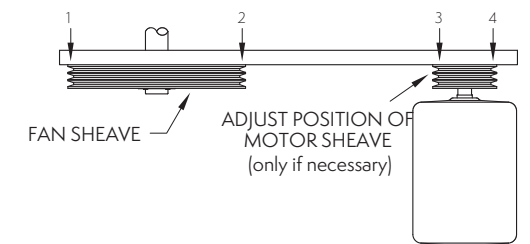

Figure 33 – Sheave Alignment Check
9. As a final check, lay a straight edge from sheave to sheave. There should be four point contact. (See Figure 33.) Adjust the position of the motor sheave as necessary.